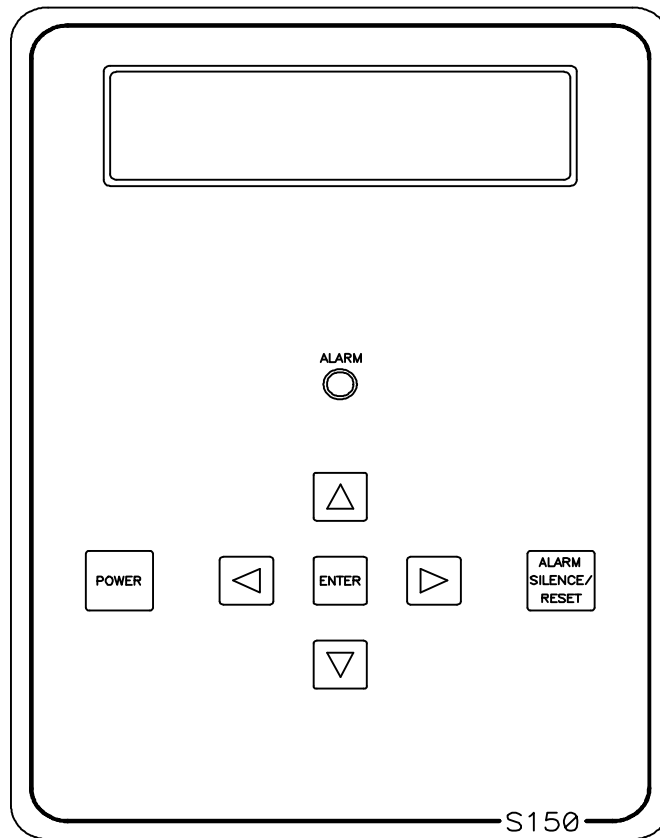
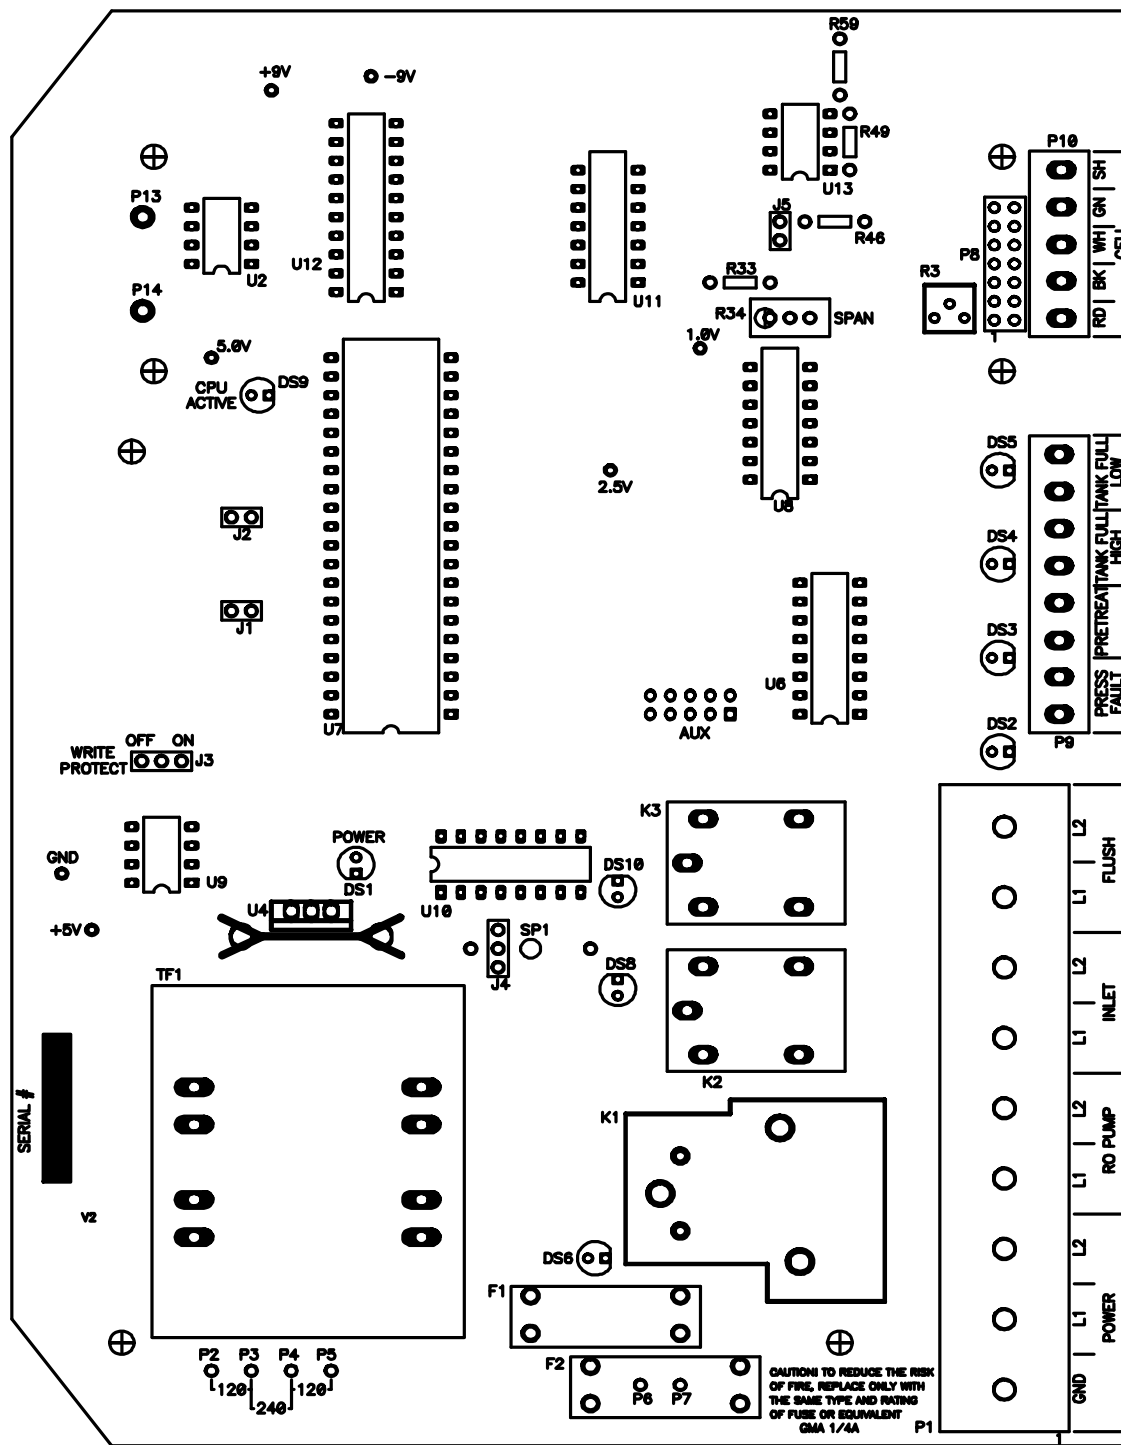
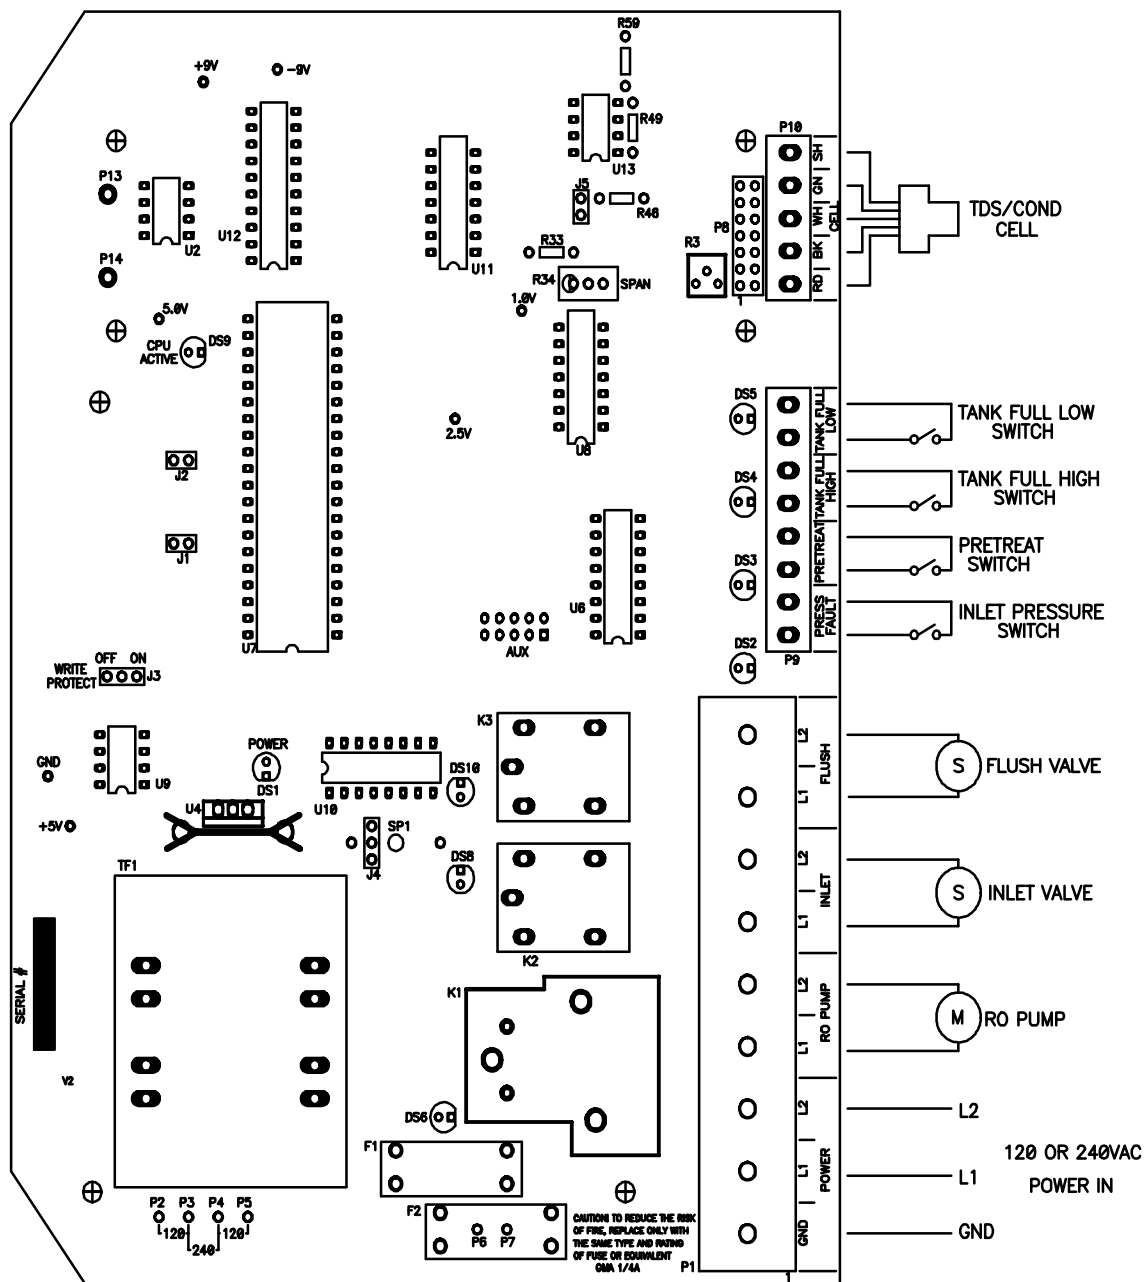

Figure 1
Figure 2
Figure 3
Refer to figure 2 for the location of all terminal strips and connectors. Figure 2 also shows all jumper and adjustment locations. Figure 3 shows a sample wiring diagram.
1. Refer to figure 1 for the location of the keys used to display or change the Setpoints and figure 2 for the location of the write protect jumper, J3. For the unit to be able to accept a change in a Setpoint, the shorting jumper must be in the off position(center and left pins). **NOTE:** Setpoints cannot be changed if the write protect jumper is in the ON position.